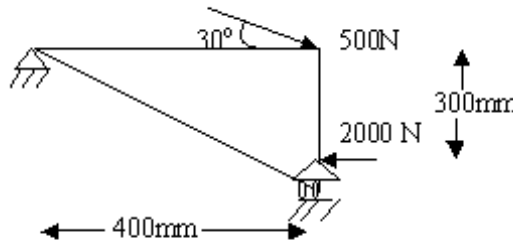

Figure 3
3. Estimate the displacement vector, stresses and reactions for the truss structure as shown below Figure3: